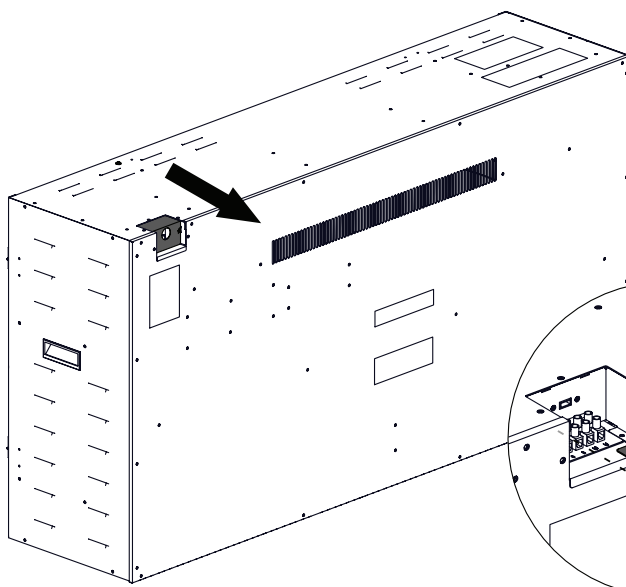

Fig. 2
4. Remove the junction box cover plate (**Fig. 2**).